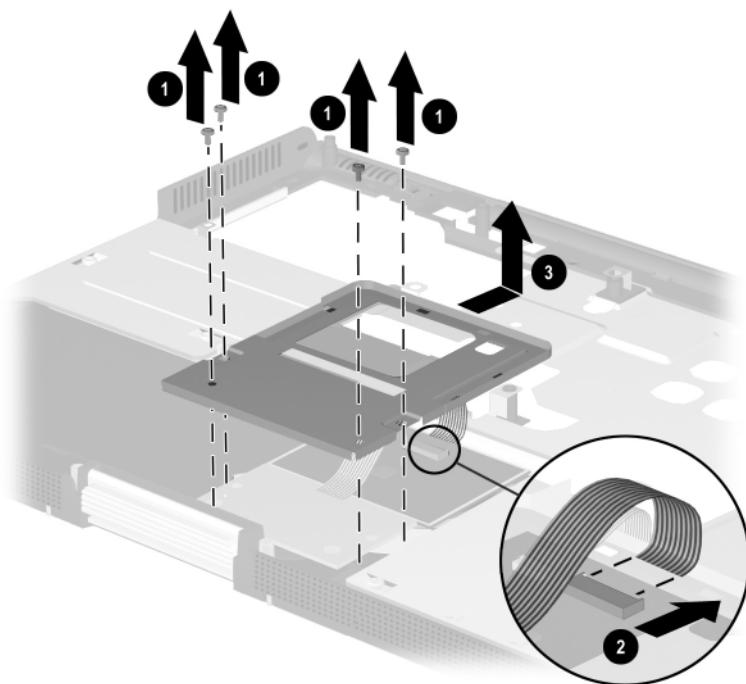

Figure 5-27. Removing the TouchPad
2. Remove the four PM2.0 × 4.0 screws ① that secure the TouchPad bracket to the top cover (Figure 5-27).
3. Disconnect the TouchPad cable ② from the low insertion force (LIF) connector on the TouchPad.
4. Slide the TouchPad bracket toward the back of the top cover ③.
5. Lift the TouchPad bracket straight up ④ and remove it.